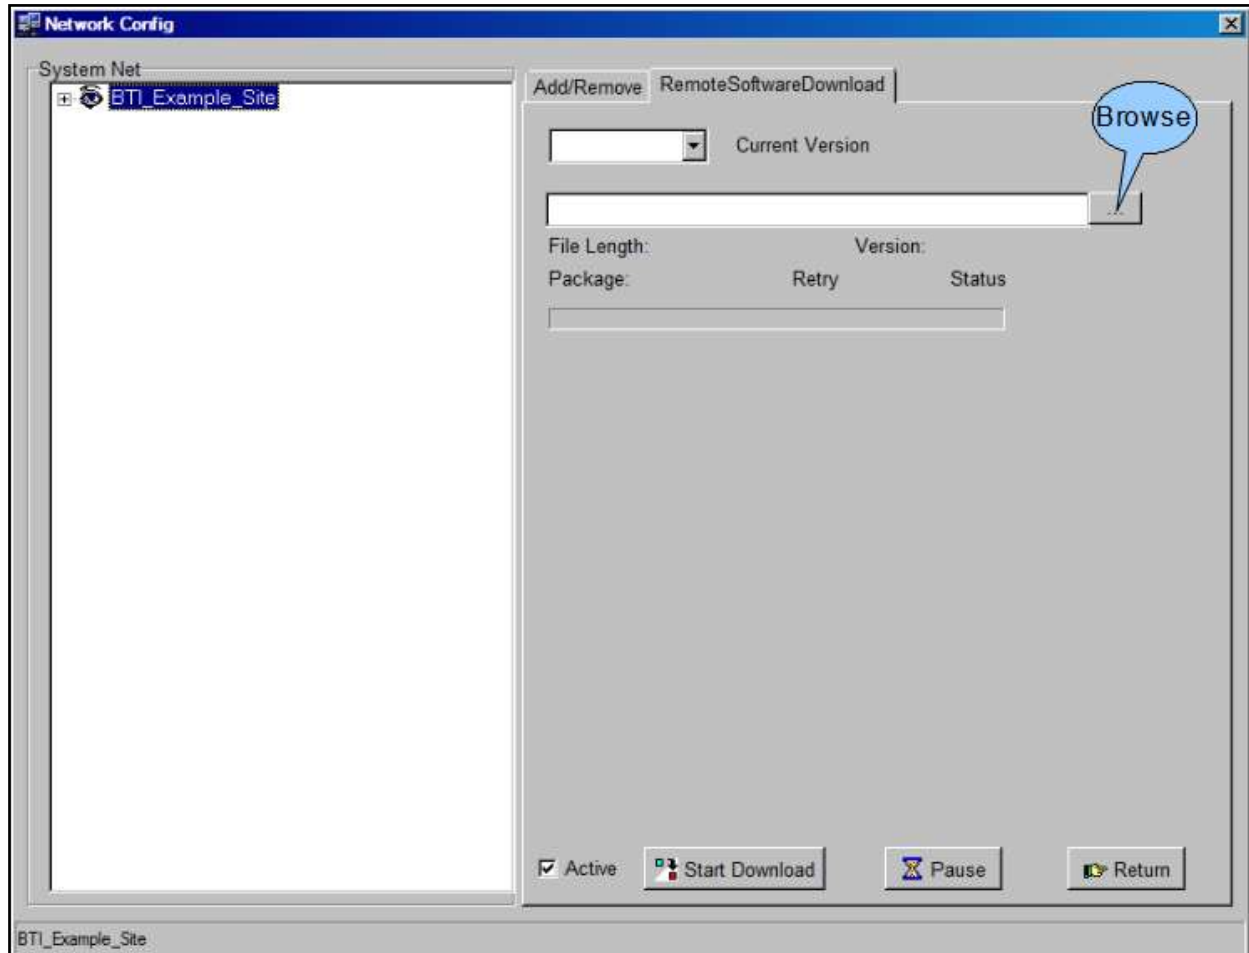

Figure 4-47. Remote Software Download Screen
5. Using the *RemoteSoftwareDownload* interface, **Figure 4-47**, Locate the file by clicking on the browse button.